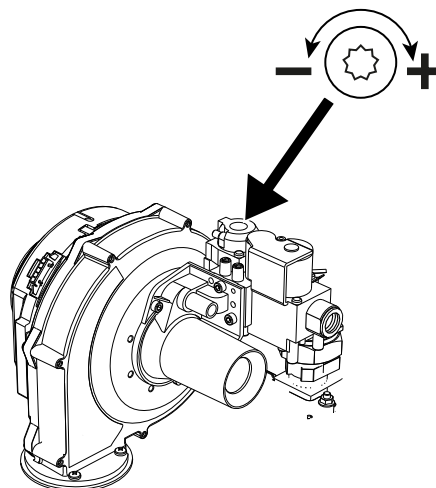

fig. 95- OFFSET minimum capacity adjustment screw
- If the values do not correspond to those indicated, adjust the CO₂ with the OFFSET adjustment screw (see fig. 95), bringing them back to those indicated.